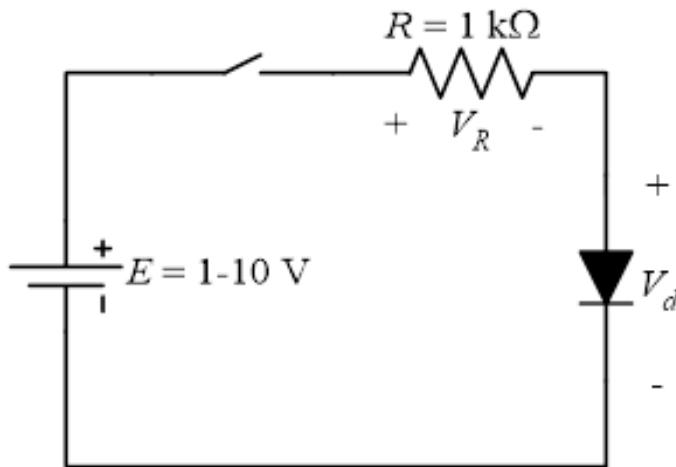

Figure 4: Circuit diagram for determining diode characteristics.
Besides, they must implement the circuit (as given in Figure 4) using a MultiSIM simulator. Some other diodes can also be used, such as IN914, IN4001, or IN4007. Measure the values of different parameters and fill up the table (Table 1) using the simulation tool.
2. Connect the circuit as shown in Figure 4.